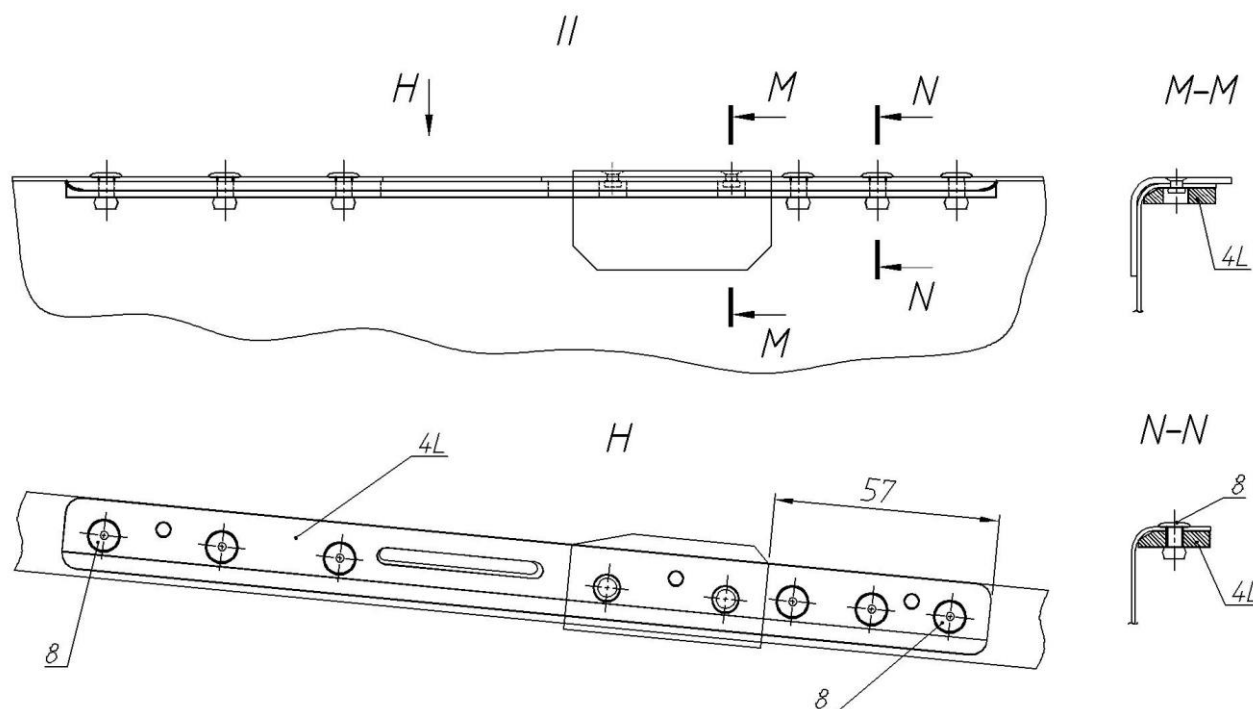

Рис. 5
3.2.3 Zone II, reinforcement of the forward lower beam of fuselage (fig. 5)